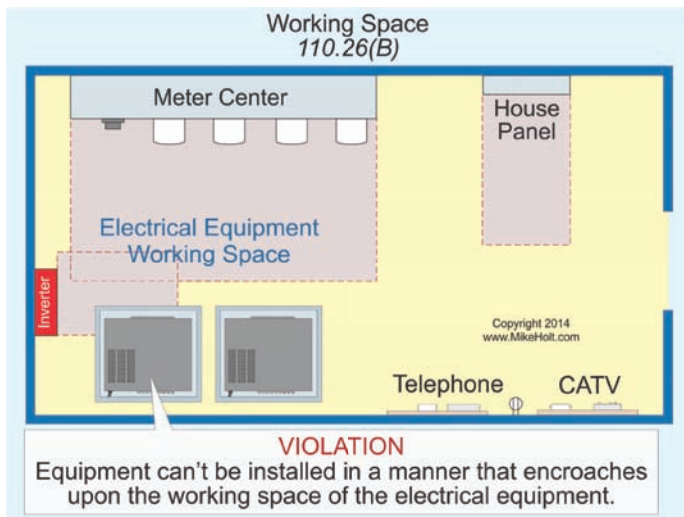

Figure 110-19
**Author's Comment:** Signaling and communications equipment must not be installed in a manner that encroaches on the working space of the electrical equipment. **Figure 110-19**